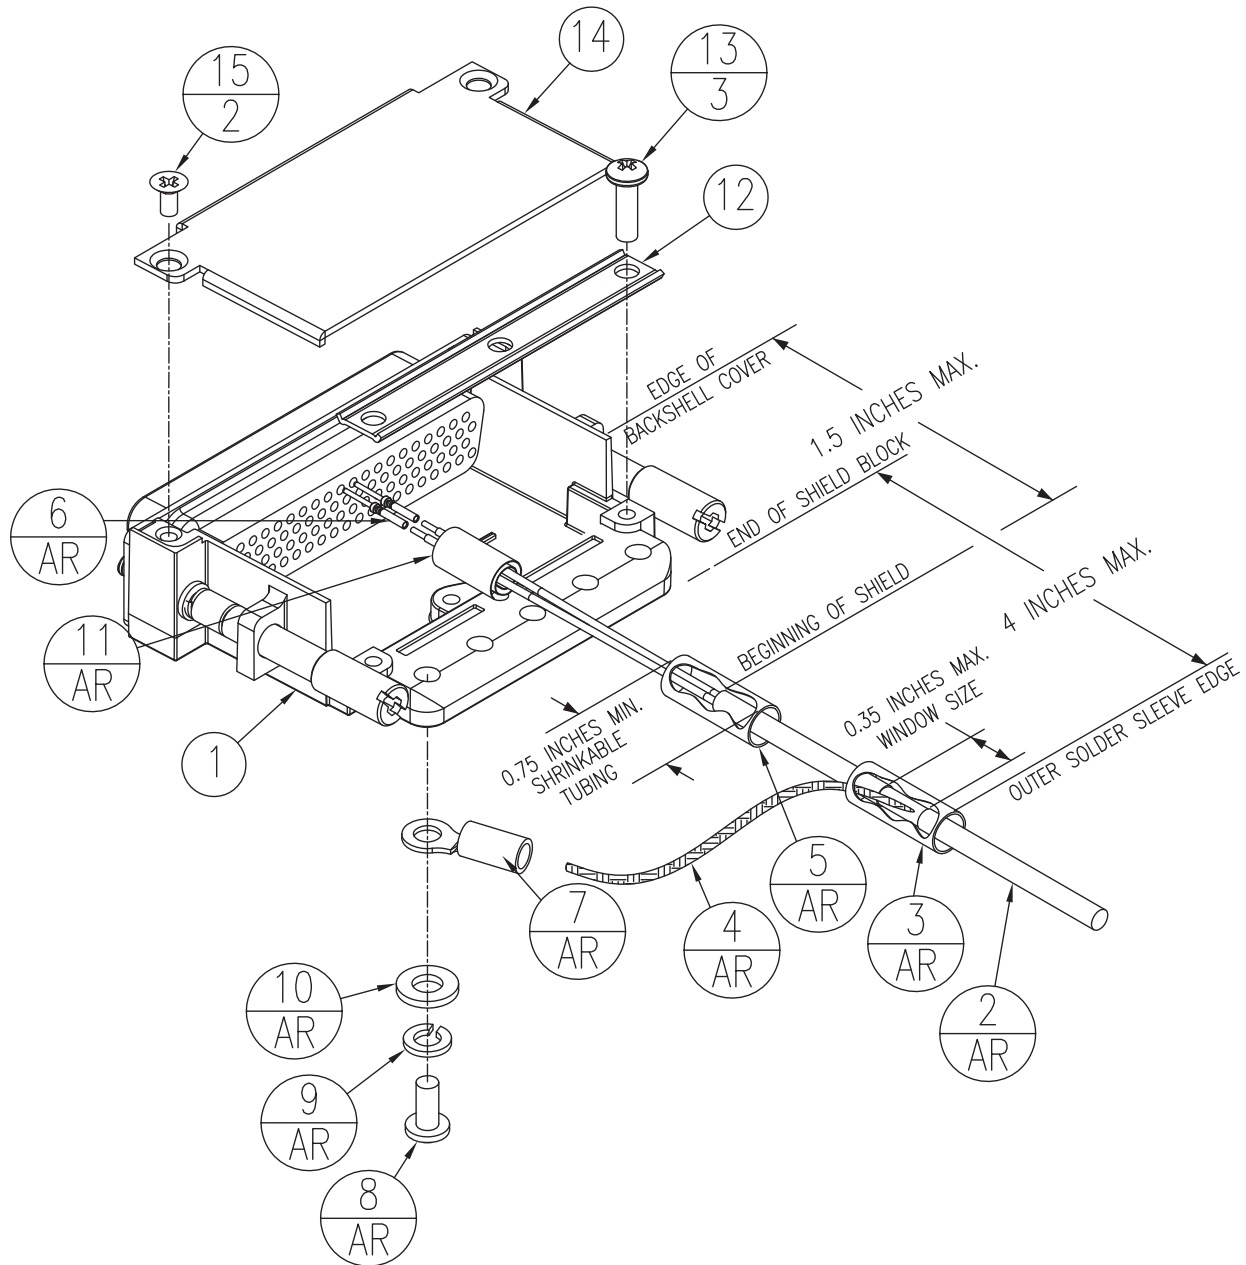

Figure 6-1 Example Shield Install onto a Jackscrew Backshell
Table 6-1 and Table 6-2 list the parts needed to install a Shield Block. The item numbers in these tables correspond to the example drawing in Figure 6-1. The parts listed in Table 6-1 are supplied in the G5 installation kit. The parts listed in Table 6-2 are to be provided by the installer as required.
In Figure 6-1, "AR" denotes quantity "As Required" for the particular installation.
- At one end of a shielded cable (item 2, Figure 6-1 or Figure 6-2) measure a distance between Window Min and Window Max (Table 6-5) and cut a window (with a max size of 0.35 inch) in the jacket to expose the shield. Use caution when cutting the jacket to avoid damaging the individual braids of the shield. When dealing with a densely populated connector with many cables, it may prove beneficial to stagger the windows throughout the Window Min to Window Max range. If staggering is not needed, the Ideal Window length is recommended. The following tools are recommended to make the window cut:
6. Cut the flat braid to a length that, with the addition of a ring terminal, will reach one of the tapped holes of the Jackscrew Backshell (item 1, Figure 6-1 or Figure 6-2). An appropriate amount of excess length without looping should be given to the flat braid to allow it to freely move with the wire bundle.
9. Terminate the ring terminal to the Jackscrew Backshell by placing the following items on the screw (item 8, Figure 6-1 or Figure 6-2) in order: split washer (item 9, Figure 6-1 or Figure 6-2), flat washer (item 10, Figure 6-1 or Figure 6-2), ring terminal (item 7, Figure 6-1 or Figure 6-2). This assembly can then be screwed into the tapped holes on the Jackscrew Backshell.
10. It is recommended to wrap the cable bundle with silicone fusion tape (item 11, Figure 6-1 or Figure 6-2) at the point where the backshell clamp (item 12, Figure 6-1 or Figure 6-2) and backshell housing will contact the cable bundle.
11. Place the smooth side of the backshell clamp across the cable bundle and secure using the provided screws (item 13, Figure 6-1 or Figure 6-2).